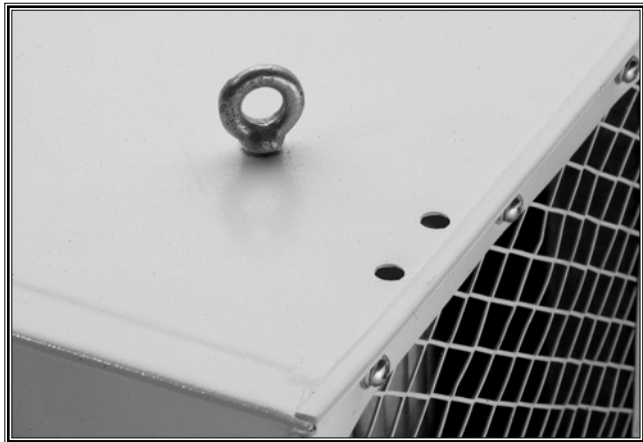

Figure 8. Eye bolt correctly seated.
3. Thread the eye bolt completely into the air filter unit until the jam-nut shoulder contacts the air filter unit. See Figure 8.